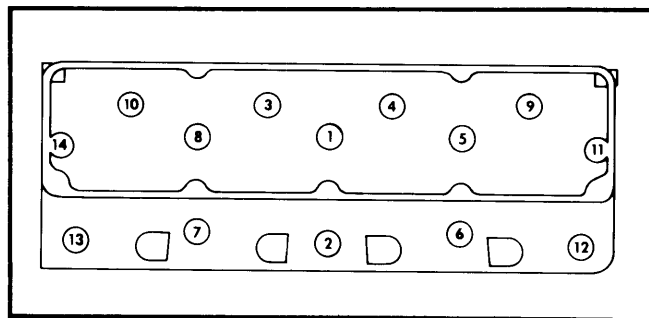

Fig. 1 Cylinder Head Tightening Sequence
2) Position gasket on block with stamped word "TOP" facing up. Install cylinder head and retaining bolts. Tighten bolts in sequence. To complete cylinder head installation, reverse removal procedure. See Fig. 1.